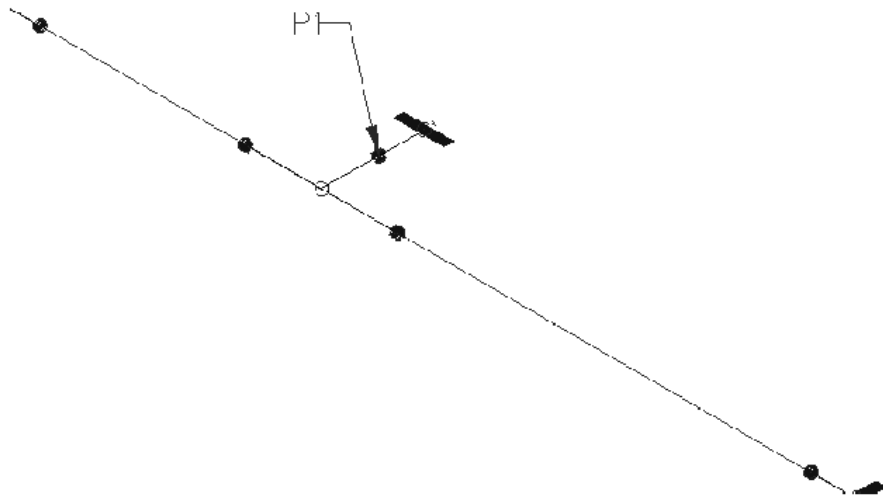

Figure 10
- Haz clic en "Place" (*mira la Figure 10*)